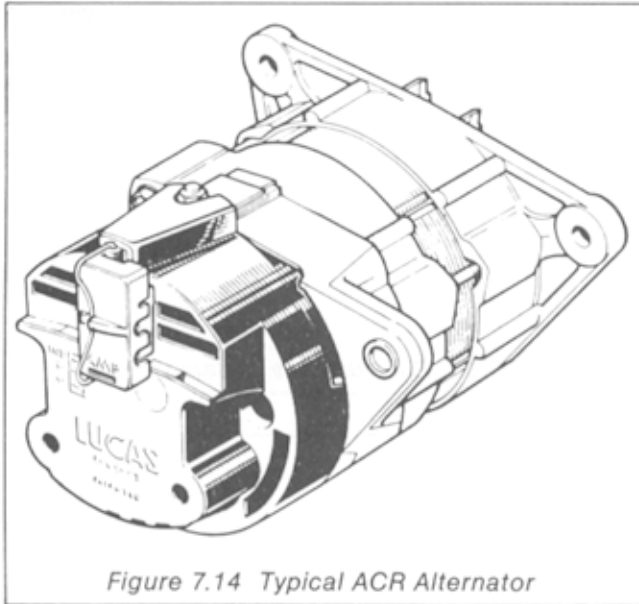

Figure 7.14 Typical ACR Alternator
**ACR ALTERNATOR (Figure 7.14)**